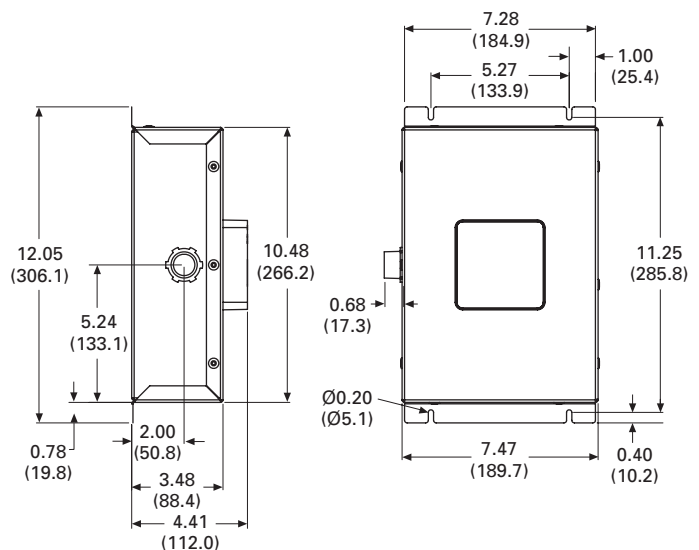

Figure 2. 120-200kA Units in a NEMA 1 Enclosure, Weight = 6.8 lbs (3.1 kg)
1. Before mounting the SPD, first determine the location and ensure that the mounting surface can support the weight of the SPD (See Figures 2, 3 and 4 for model weights). For maximum performance, mount the unit as close as possible to the wiring connection points within the enclosure.
2. Lay out the four enclosure mounting holes using the enclosure dimensions provided in Figures 2, 3 and 4. Drill the appropriate holes per the product dimensions and use #10 fasteners for NEMA 1 enclosures and 1/4" fasteners for NEMA 4X enclosures.